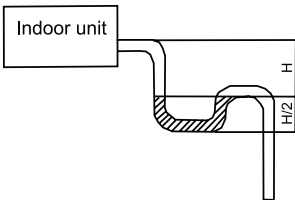

Fig.20
- (4). When the drain hose cannot keep a sufficient gradient, it is necessary to fit a riser pipe (field supplied) to it.
- (5). If the air flow of indoor unit is high, this might cause negative pressure and result in return suction of outdoor air. Therefore, U-type water trap shall be designed on the drainage side of each indoor unit.(Fig.20)
- (6). Install one water trap for each unit.
- (7). Installation of water trap shall consider easy cleaning in the future.